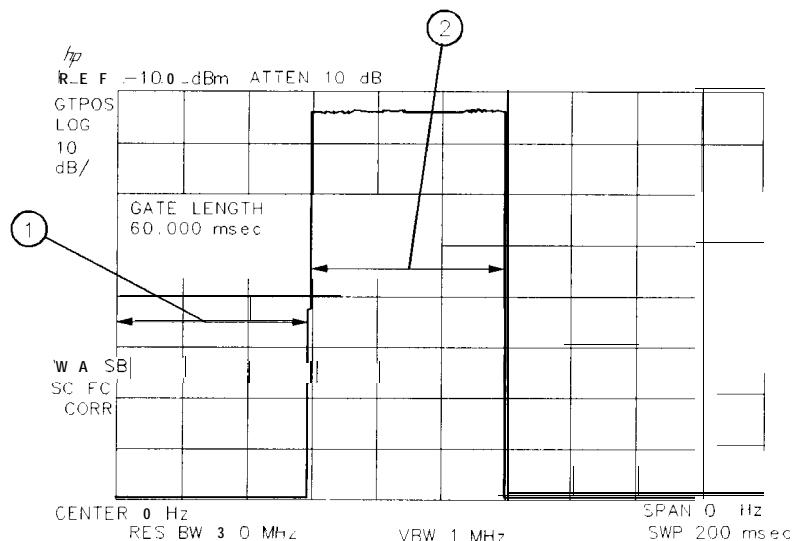

Figure 4-32. Gate On
3. Press Previous Menu , GATE ON OFF (so that ON is underlined) (see Figure 4-32).
Item	Description of Items in Figure 4-32